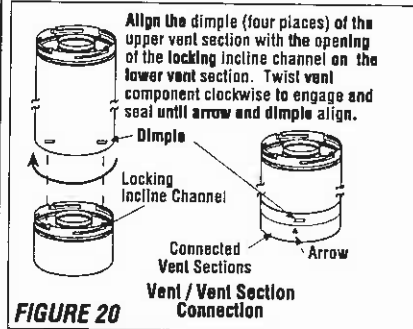

FIGURE 20
C. Attach vent components to each other - Other vent sections may be added to the previously installed section in accordance with the requirements of the vertical vent figures and tables. To add another vent component to a length of vent run, align the dimpled end over the inclined channel end of the previously installed section, adjusting the radial alignment until the four locking dimples are aligned with the inlets of the four incline channels of the previous section. Push the vent component against the previous section until it fully engages, then twist the component clockwise running the dimples down and along the incline channels until they seat at the end of the channels. This seating position is indicated by the alignment of the arrow and dimple as shown in **Figure 20**.